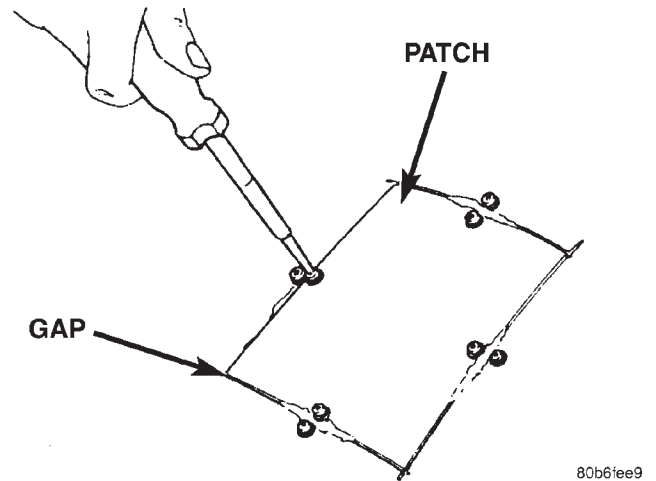
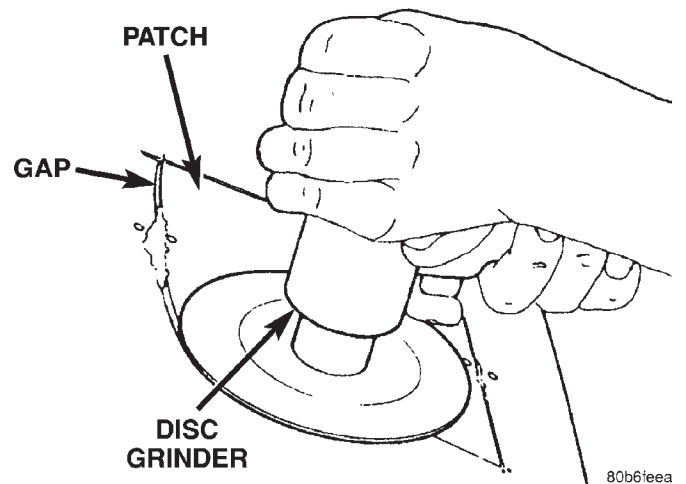

Fig. 13 Install Screws
Fig. 14 Grind Surface
(15) Install screws to hold the patch to support squares (Fig. 13). Tighten screws until patch surface is flush with panel surface.
(16) Allow epoxy to cure, and remove all screws.
(17) Using a 125 mm (5 in.) 24 grit disc grinder, grind a 50 mm (2 in.) to 75 mm (3 in.) wide and 2 mm (0.080 in.) deep path across the gaps around the patch (Fig. 14). With compressed air, blow dust from around patch.